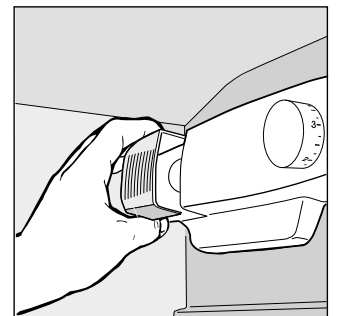

Fig. 3
Clean the defrost water drain hole periodically (see fig. 3) to prevent water from collecting on the bottom of the refrigerator instead of flowing out.
- Replacing the light bulb. The bulb for lighting the interior of the appliance is located at the back of the thermostat box. Unscrew the burned out bulb and replace it with another bulb with a wattage no higher than 15 Watt, follow the instructions illustrated in fig. 3.